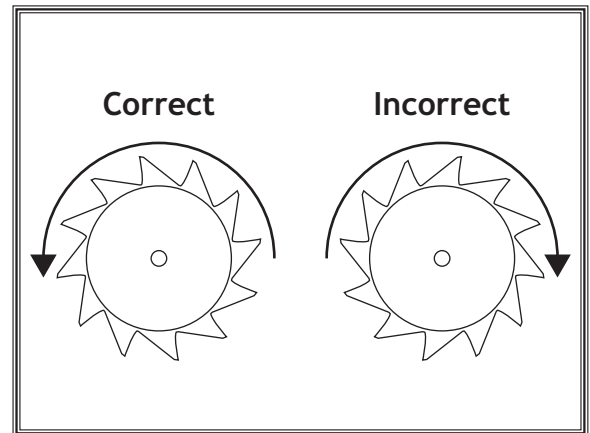

Figure 15. Arbor and blade should rotate counterclockwise if electrical wiring is correct.
9. Press the *saw motor stop button* to turn the saw motor **OFF**, and watch the arbor as it slows down—the arbor should spin counterclockwise (see Figure 15).